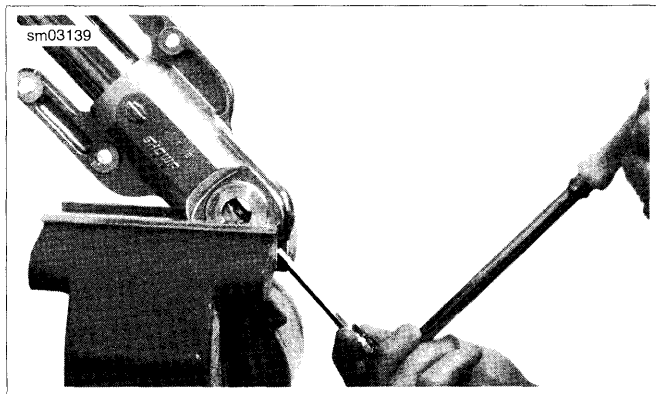

Figure 2-149. Remove Fastener and Copper Washer
1. See Figure 2-149. Place fork slider into bench vise with soft-jaws and remove fastener and copper washer from bottom of fork assembly.